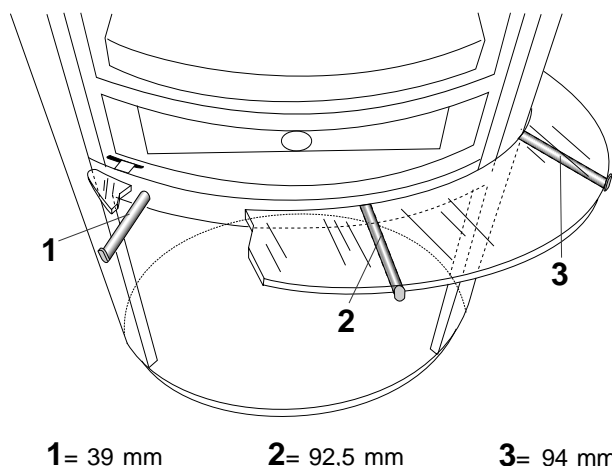

Fig. 6.3
6.3 VERRE DÉCORATIF (POÊLE SABRINA) (FIG. 6.3)
6.3 CRISTAL ORNAMENTAL (FIG. 6.3)